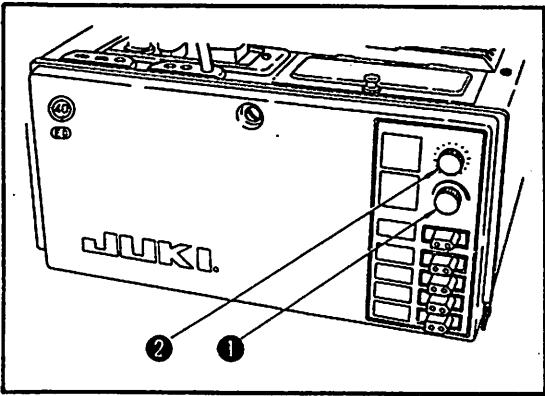

Fig. 3-12
The maximum sewing speed is adjusted in the two different ways, i.e. by using 400 s.p.m.-step speed control knob ( ② in Fig. 3-12) which is designed to change only the maximum sewing speed without changing the relationship between the rotational speed of the sewing machine and the pedal stroke (hereinafter called “start-up”) or by using the max. sewing speed control knob ( ① in Fig. 3-12) which is designed to change the max. sewing speed by retarding the start-up.